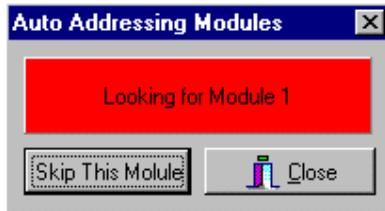

Fig. 48
- 5) Click **Auto Address Modules** with your left mouse button. The following window will appear (fig 48):